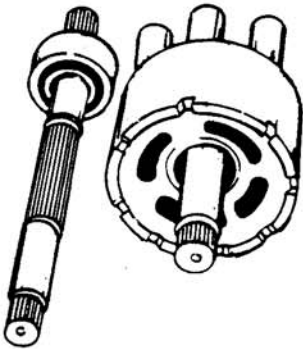

Figure 6-40. Pump and Motor Inspection
- (1) Check seal surface, bearing surface, spline and bearing for damage (pump, motor). See Figure 6-40.